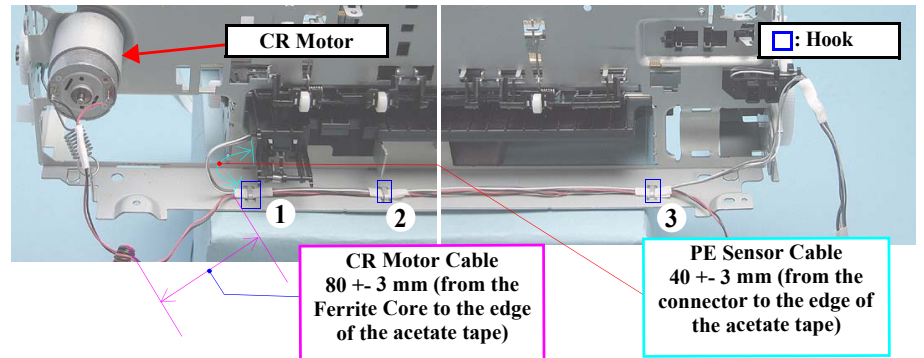

Figure 4-123. Removing the CR Motor (2)
- Route the cables as described below referring to the Fig.4-123.
- 1. Wrap the CR Motor Cable together with the PE Sensor Cable with the 20mm-length acetate tape at the (1) position.
- 2. Align the center of the taped portion with the center of the hook (1), then wrap the cables at another two positions each with 20 mm-length acetate tape so that the center of the each taped portion comes to the center of hook (2) and (3) respectively.
- 3. Secure the taped cables with the (1) (2) (3) hooks so that the PE Sensor Cable faces inward.
- Route the CR Motor/PE Sensor cables on the rear of the printer referring to the page below. Figure 4-123 "Removing the CR Motor \(2\)" \(p.99\)